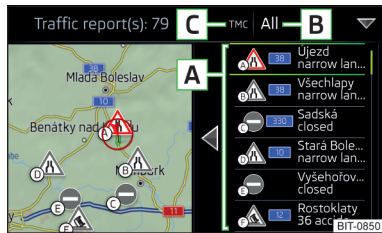

Fig. 235
In the list of traffic messages and the map, a max. of 6 messages are displayed, that are provided with a letter and a traffic obstruction symbol (e.g. , , )  » Fig. 235.
On the position  » Fig. 235 can the following symbols are displayed.
- ▶ **Route guidance is taking place** - After tapping function surface  » Fig. 235 in the displayed menu, you can select all traffic messages by tapping the function surface **All areas**, or you can select only the traffic messages present on the route by tapping the function surface **Route**.